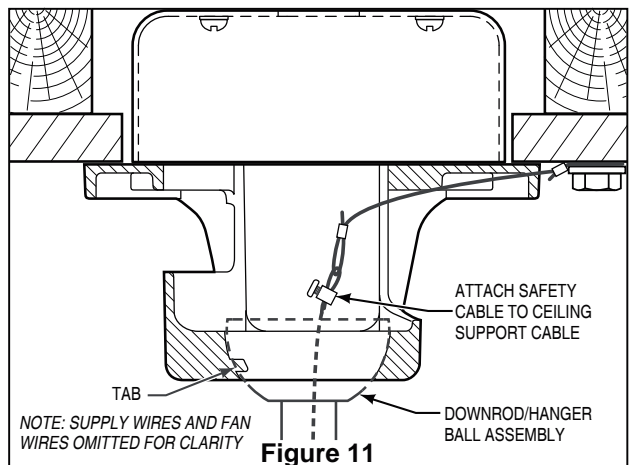

Figure 11
4. Carefully lift the fan and seat the downrod/hanger ball assembly on the hanger bracket that was just attached to the ceiling joist. Be sure the groove in the ball is lined up with tab on the hanger bracket. (Figure 11)
5. Attach the safety cable to ceiling support cable. Slide cable clamp onto safety cable (from fan). Place the end of cable through the loop of ceiling support cable. Pull as much cable through loop as possible. Feed end of cable into clamp hole and firmly tighten screw (Figure 11). Cut off excess safety cable.